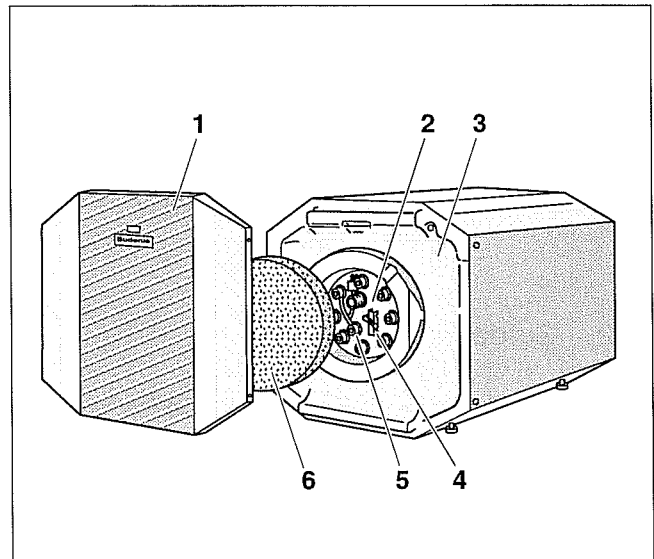

Fig. 1 Logalux LT135/2 – 300/2
Corrosion protection is provided by hygienic Buderus Thermoglaze "DUOCLEAN" as well as additional cathodic protection using a magnesium anode rod (Fig. 1, **Item. 5**), which is accessible by means of the clean-out cover (Fig. 1, **Item. 2**).
- Clean-out cover (Fig. 1, **Item. 2**) for maintenance and service access.
- Insulation (Fig. 1, **Item. 3**)
The insulation consists of high density polyurethane directly attached to the tank vessel. An insulating ring (Fig. 1, **Item. 6**) reduces heat loss from the clean-out cover.
- Domestic water temperature sensor bracket (when using Buderus Logamatic control) (Fig. 1, **Item. 4**)